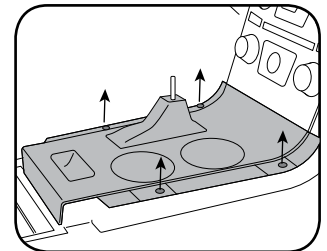

Fig. 1.4
4. Remove the four T25 Torx screws from the center console trim. Pull up and disconnect the wiring harness to remove the trim. (Fig. 1.4)